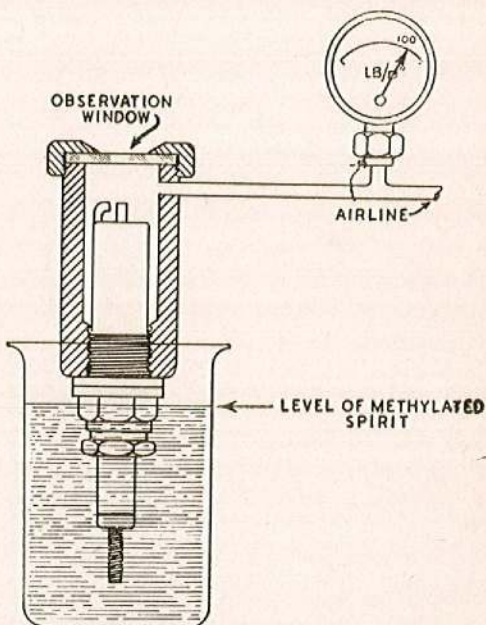

Fig. 3. Testing the plug for gas leakage
13. Finally test the plug for gas leakage between the plug body and centre assembly. This test should be carried out with the plug in position in a pressure test fixture (fig. 3). Completely cover the body hexagon with fluid, in a beaker of methylated spirit, and apply a pressure of 100 lb. per sq. in. to the chamber.